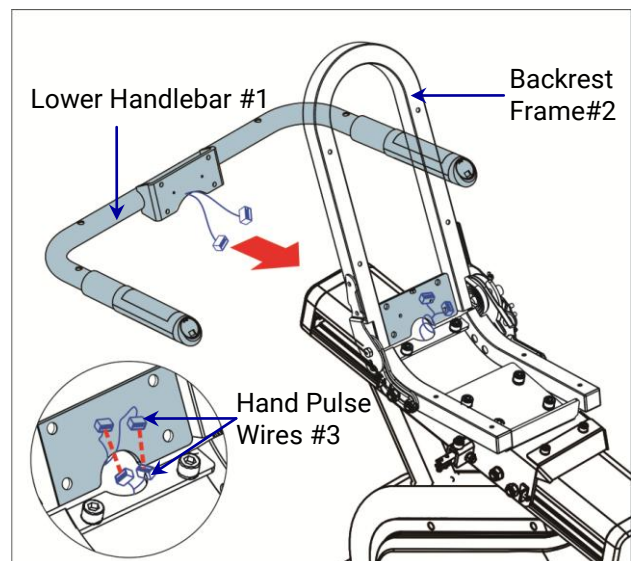

Fig 2.5-10B
- 2) Attach the **Lower Handlebar #1** to the **Backrest Frame #2** and then connect the **Hand Pulse Wires #3** the hole on the **Backrest Frame #2**. (Fig 2.5-10B)